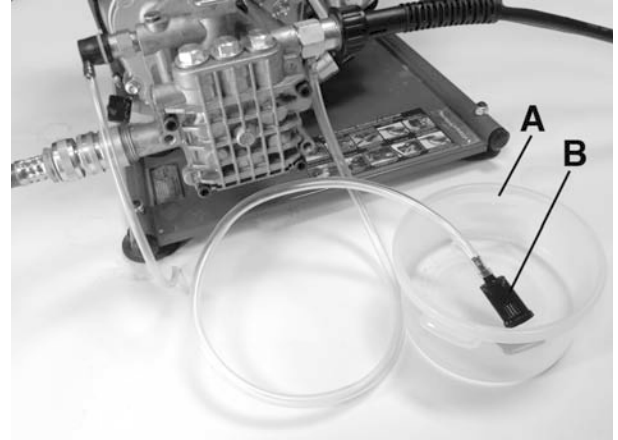

Figure 11
- 1) Pour the contents of your detergent into a container (A) Fig.11 and place it next to the pressure washer pump.